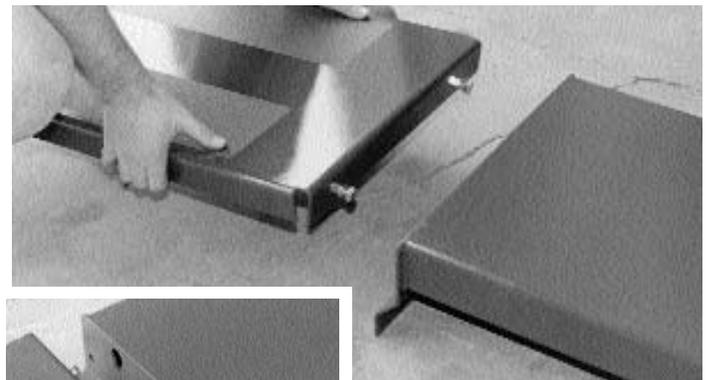

Figure 15
12. Attach loading ramps to opposite end of mainframe. Loading ramp bolts interlock with holes in treadway extensions. (See Figure 15 and its inset.)